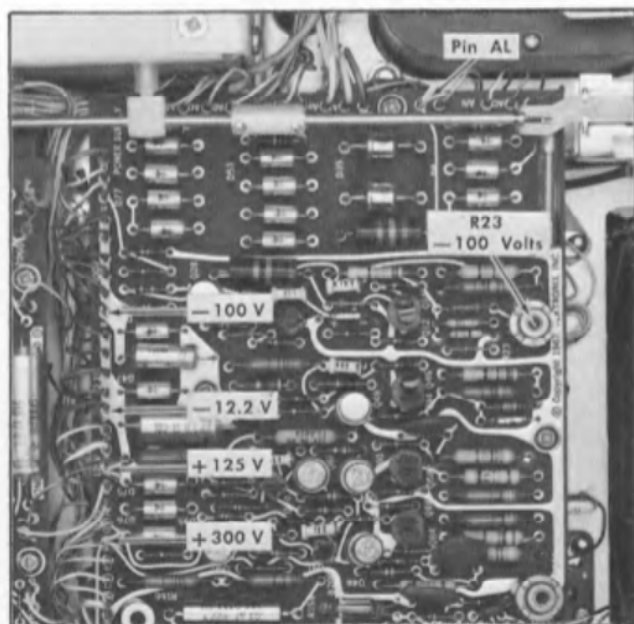

Fig. 5-2. Locations of power supply test points and R23, —100 Volts adjustment.
b. Connect the precision DC voltmeter between the —100-volt test point and ground (see Fig. 5-2).
c. ADJUST—R23, —100 Volts (Fig. 5-2) for exactly —100 volts.
a. Connect the precision DC voltmeter between each low-voltage test point and chassis ground. See Fig. 5-2 for test point locations.